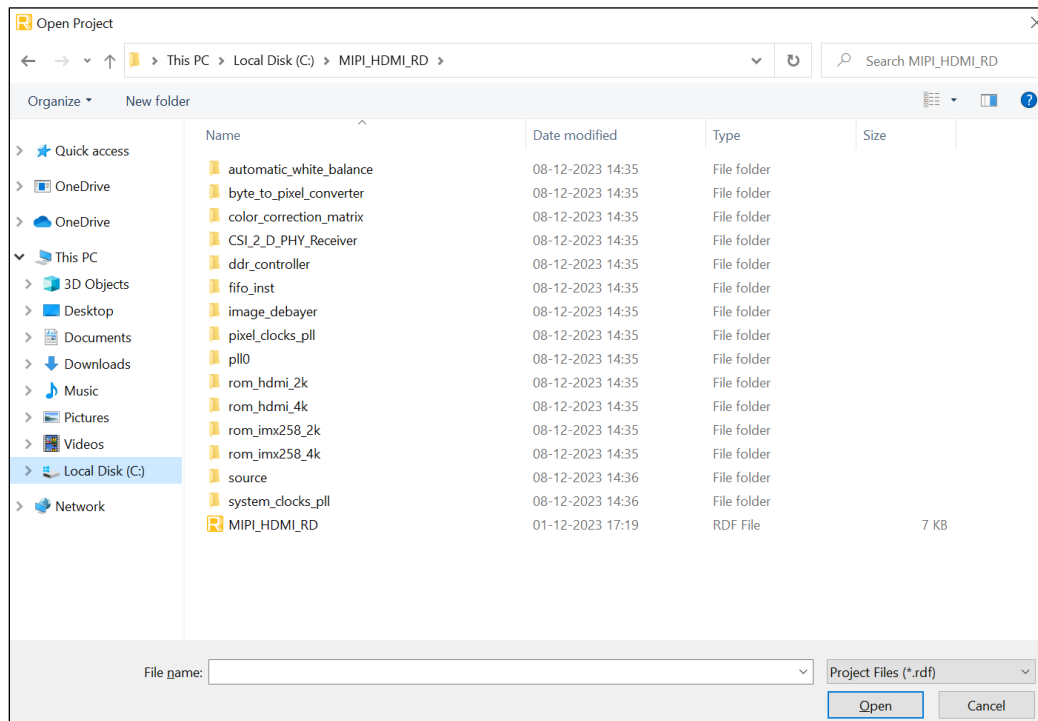

Figure 4.2. Open .rdf Project File
2. Open the radiant project (.rdf file) in the project directory as shown in Figure 4.2.